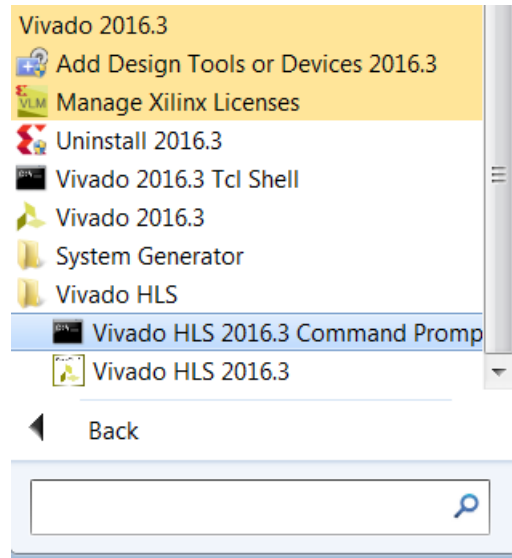

Figure 3-1: Vivado HLS Command Prompt
- On Windows use **Start > All Programs > Xilinx Design Tools > Vivado 2016.3 > Vivado HLS > Vivado HLS 2016.3 Command Prompt** (Figure 3-1).